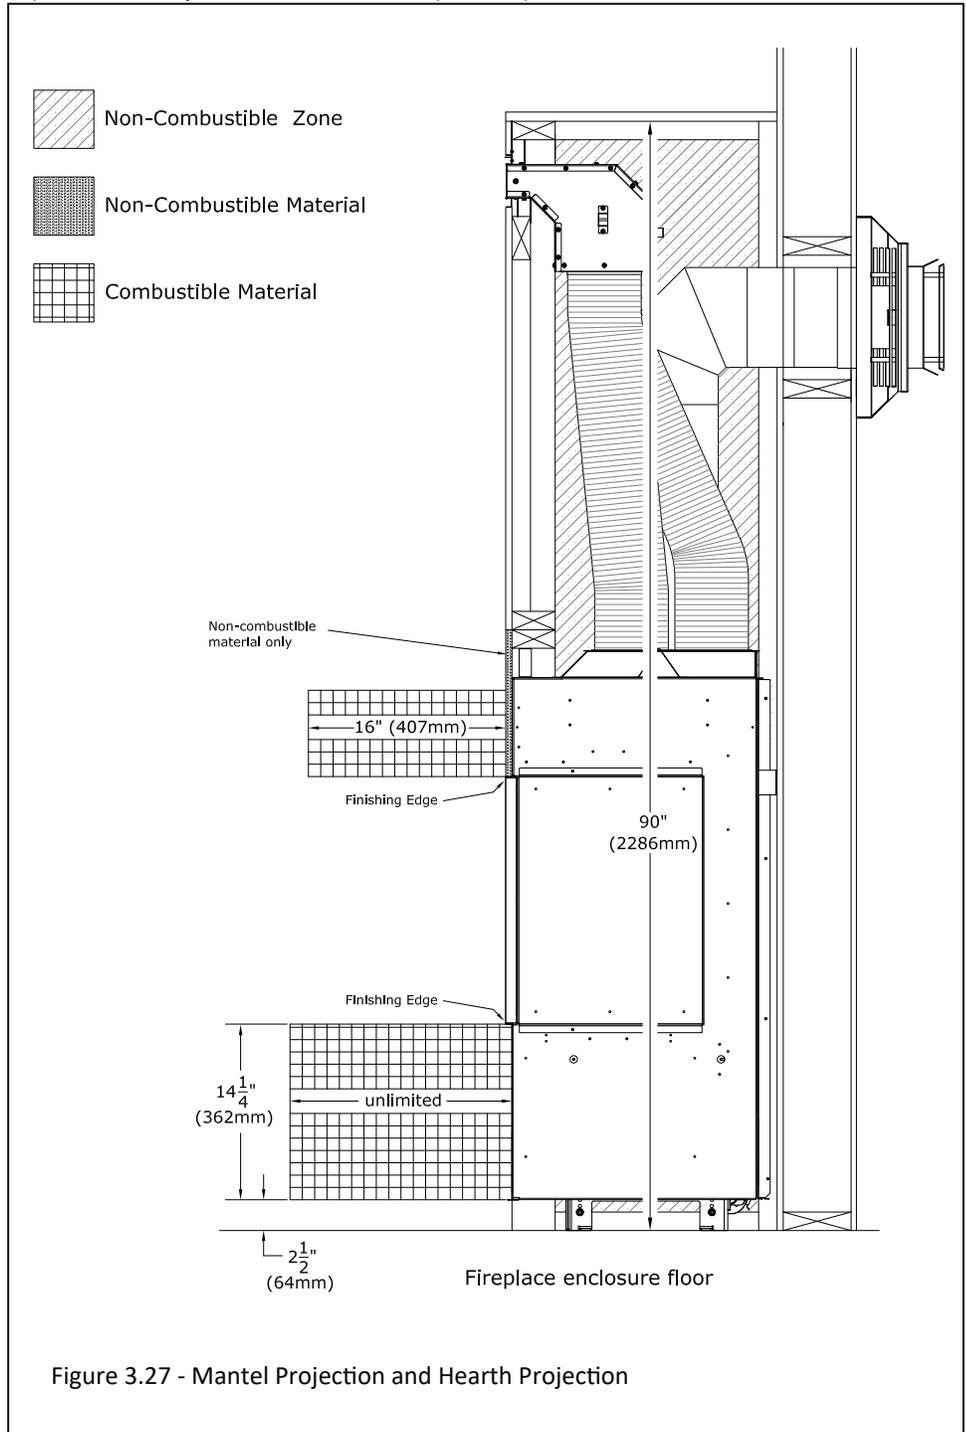

Figure 3.27 - Mantel Projection and Hearth Projection
- **Combustible Mantel Projections:** A maximum of a 16" (406mm) mantel can be installed flush at the side and top finishing edge. See Figure 3.27.
- **Combustible Hearth:** Combustible hearth can have an unlimited projection. Hearth can be raised flush to the bottom finishing edge. See Figure 3.27.